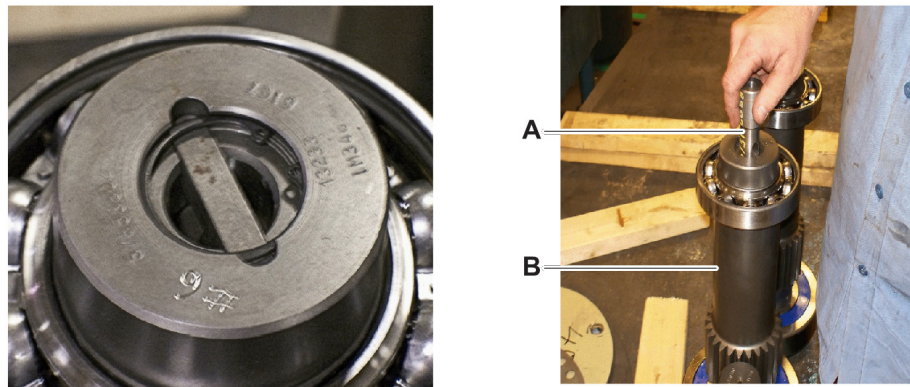

Figure 5
8. In the lower end of one input pinion shaft subassembly (Figure 5, item A), install a drive key (item A) followed by a snap ring to hold the key in place.